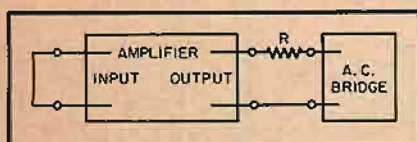

Fig. 7. Set-up for measuring output impedance.
Fig. 7 and adding compensator  $R_4C_2$ . This is equivalent to combining (B) and (C). Proper choice of values and tap can yield a closer approximation to the theoretical curves of Fig. 5.
An alternate method of measurement is interesting and useful because of its simplicity and because it may be used to measure either positive or negative values. An a.c. bridge and a resistor are required. The resistor should be somewhat larger than the negative resistance the amplifier is expected to have and should be measured first on the bridge by itself. Then the resistor, bridge, and amplifier are connected as shown in Fig. 7 and the bridge is bal-
If, for example, the resistor is 10 ohms and in the circuit of Fig. 7 the bridge balances at 5 ohms, the amplifier internal resistance is  $5 - 10 = -5$  ohms. A positive internal amplifier resistance may be measured simply by connecting the bridge to the amplifier without a resistor and accepting the indication of the bridge at balance.